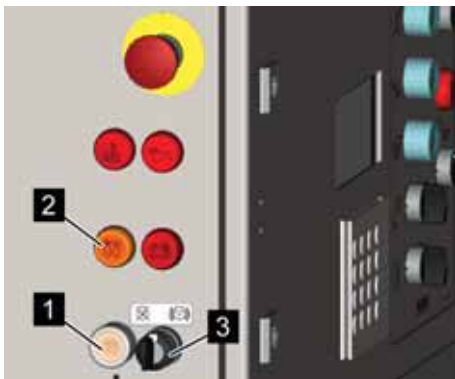

Fig. 44: Pre-heating and starting
2. ➤ Press the button (Fig. 44/1) and hold until the control lamp [Pre-heat] (Fig. 44/2) goes out.
3. ➤ Start the diesel engine by turning and holding the key switch (Fig. 44/3) to  and release the toggle switch immediately when the diesel engine has started.